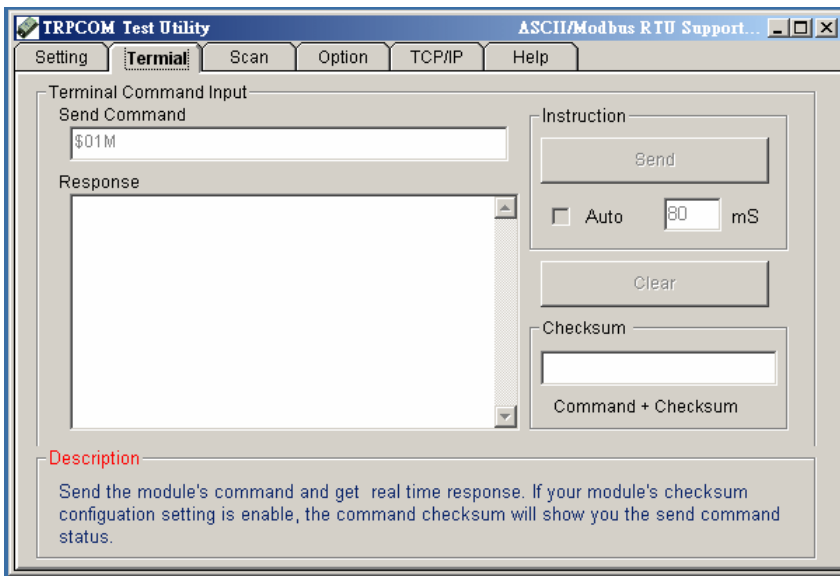

Figure 2
2.The "Terminal" function is for user to input command, user can control all of module's digital input/output status or wait to get module response status See Figure 2